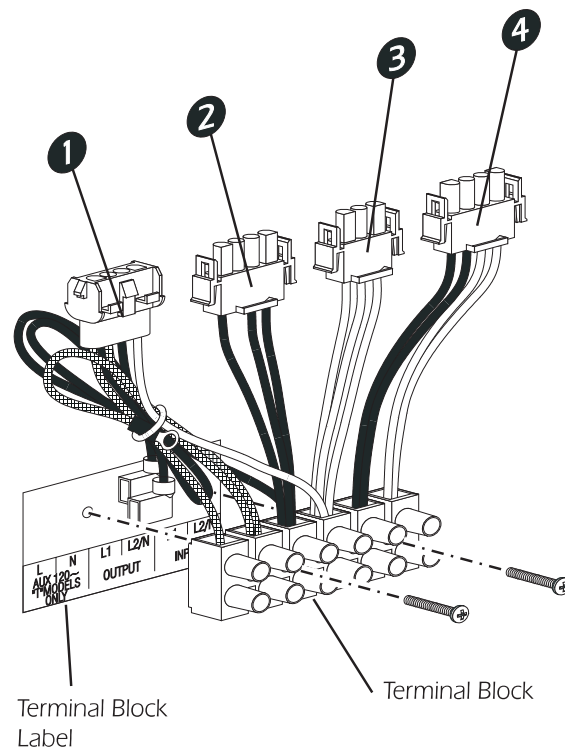

Figure 5-12 Location of Wiring Harness Mounting Screws
IMPORTANT: When the wire harness assembly is installed into the UPS, the plug-type connectors should be positioned at the top and the terminal block should be positioned at the bottom. (Refer to Figure 5-12.)
3. Position the screws through the front of the wire harness assembly as shown in Figure 5-12. Position the label behind the harness so that the screws pass through the holes in the label, and it is visible as shown in Figure 5-12.
1. *Refer to Figure 5-12 for connector numbers.*